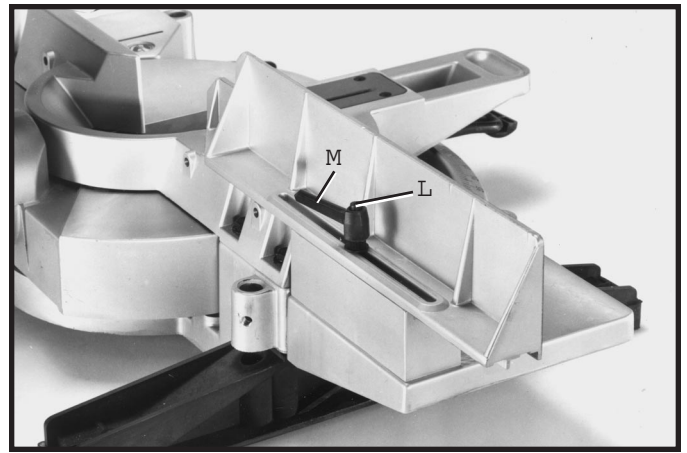

Fig. 7J
9. Position lock handle (M) Fig. 7J, on locking stud and replace screw and spring (L) that were removed in STEP 7. NOTE: Lock handle (M) is spring-loaded and can be repositioned by lifting up on handle and repositioning it on stud located underneath handle.